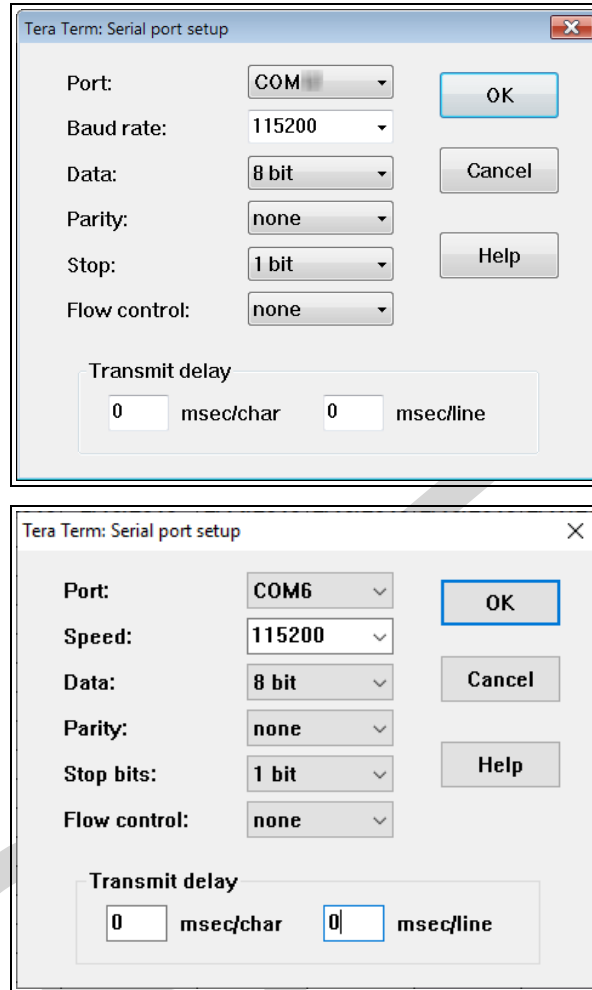

Figure 23: Tera Term: Serial Port Setup dialog box with Default Settings
The **Tera Term: Serial Port Setup** dialog box opens. Figure 23
8. Using Figure 23 as the example, verify the COM port settings are: